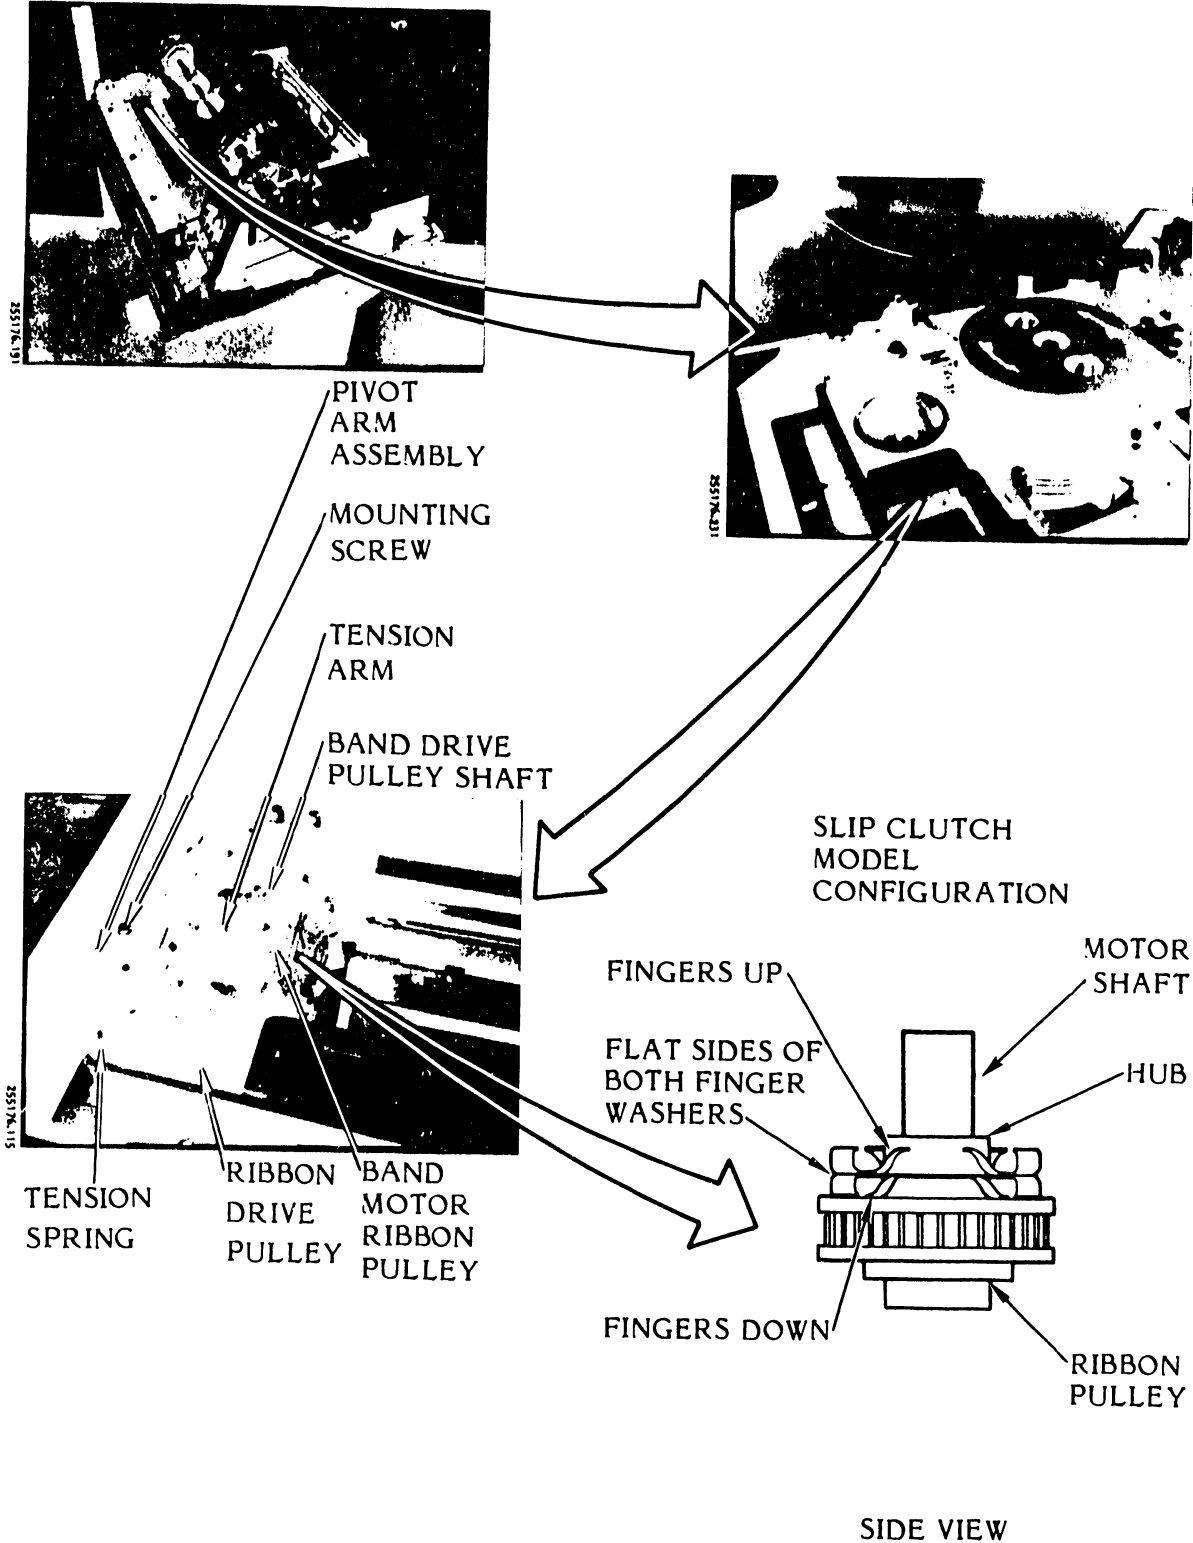

Figure 3-125. Ribbon Drive (Posidrive) Assembly Removal/Installation
(Figure 3-125)
- c. Place the ribbon drive belt around the ribbon drive pulley and around the band motor ribbon pulley between the pulley and roller arm (see figure 3-125).
- 3. The spring segments of each washer should be aligned as shown in figure 3-125.